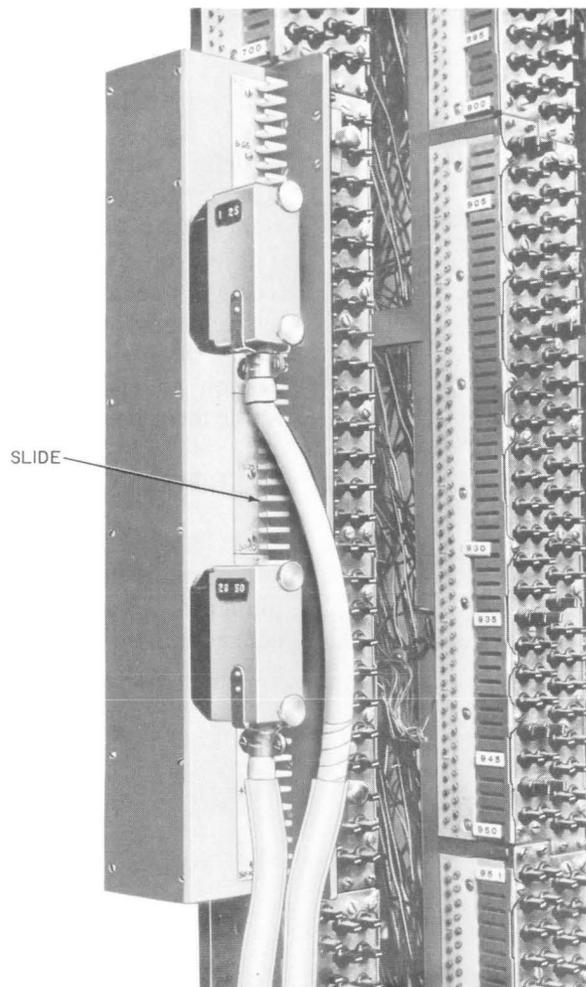

Fig. 3—C Test Connector on 300-Type Connector
3.01 The front and back views of the C Test Connector are shown in Fig. 3 and 4. The connector consists of a plastic baseplate containing an assembly of 100 spring-mounted plungers (50 pairs). The plungers are arranged to make positive contact with the cable pair test buttons located on the left side of 300-type connectors.